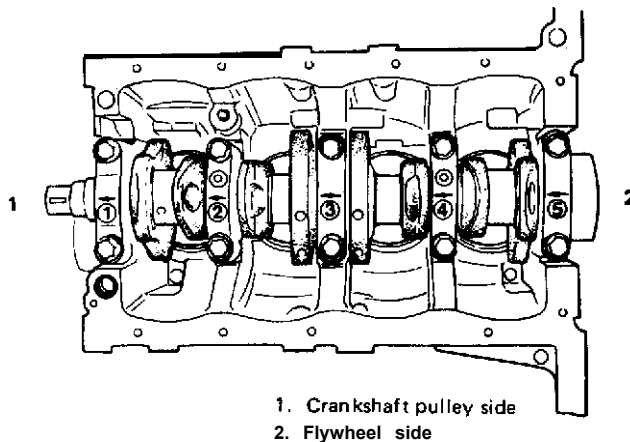

Fig. 3-5-43 Bearing caps installation
- On each main bearing cap, arrow mark and number are embossed as indicated in Fig. 3-5-43.